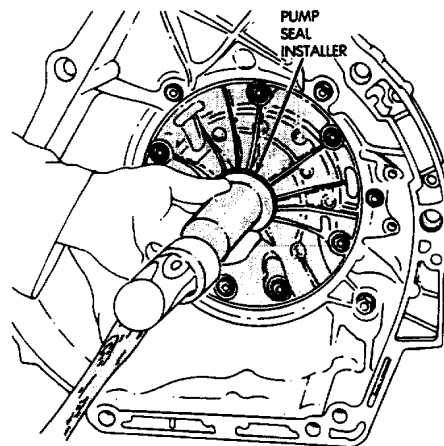

Fig. 51 Installing Oil Pump Seal
- (1) Remove converter.
- (2) Remove old seal. Use blunt punch to collapse seal and pry seal out of pump housing. Do not scratch or damage seal bore.
- (3) Lubricate lip of new seal with petroleum jelly and install seal in pump (Fig. 51).
- (4) Align and install torque converter.